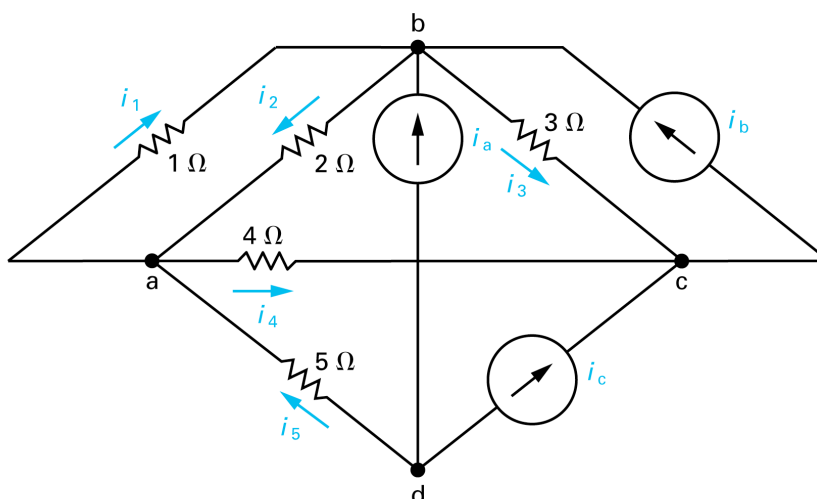

Figure 1. Circuit for PSpice Problem 1. Note: $i_a = 0.1\text{A}$, $i_b = 1\text{A}$, and $i_c = 10\text{A}$.
- 3) Then, draw the operational amplifier circuit according to the problem statement using the operational amplifier symbol as in Figure 1, above.